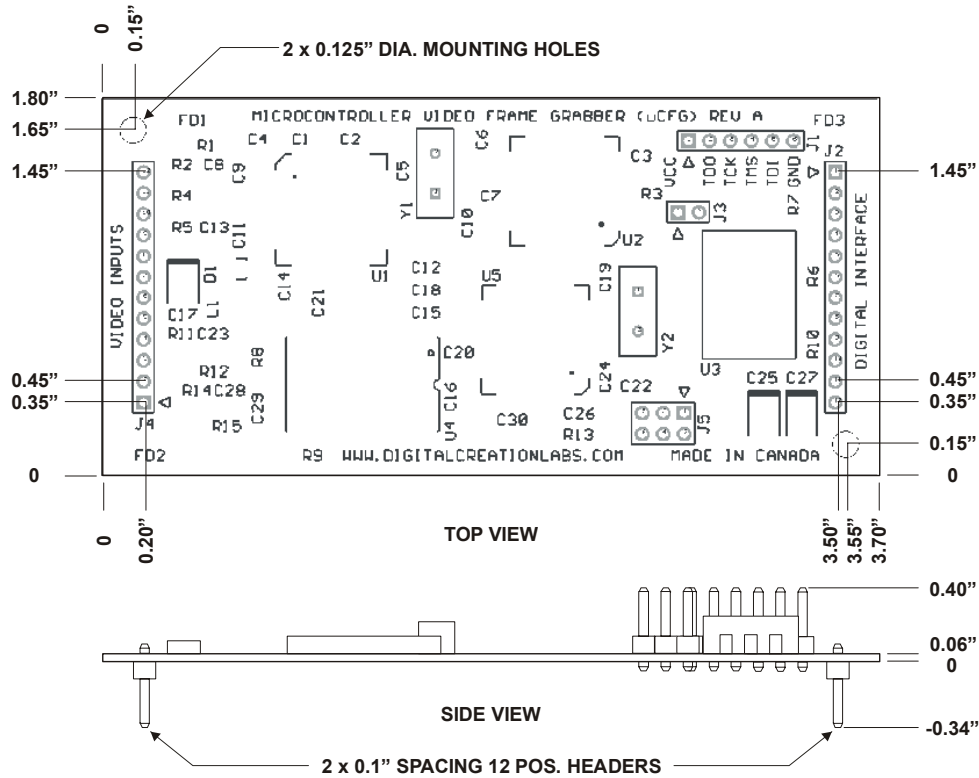

Figure 3: Mechanical dimensions of the uCFG board
Figure 3 shows the overall mechanical layout and dimensions of the uCFG board. Headers J2 and J4 are mounted on the back side of the PC board to allow plug-in to an external motherboard. Standard 12 pos 0.1" spacing through-hole headers are used. A side view also shows the worst case clearance height both on the top and bottom of the board.